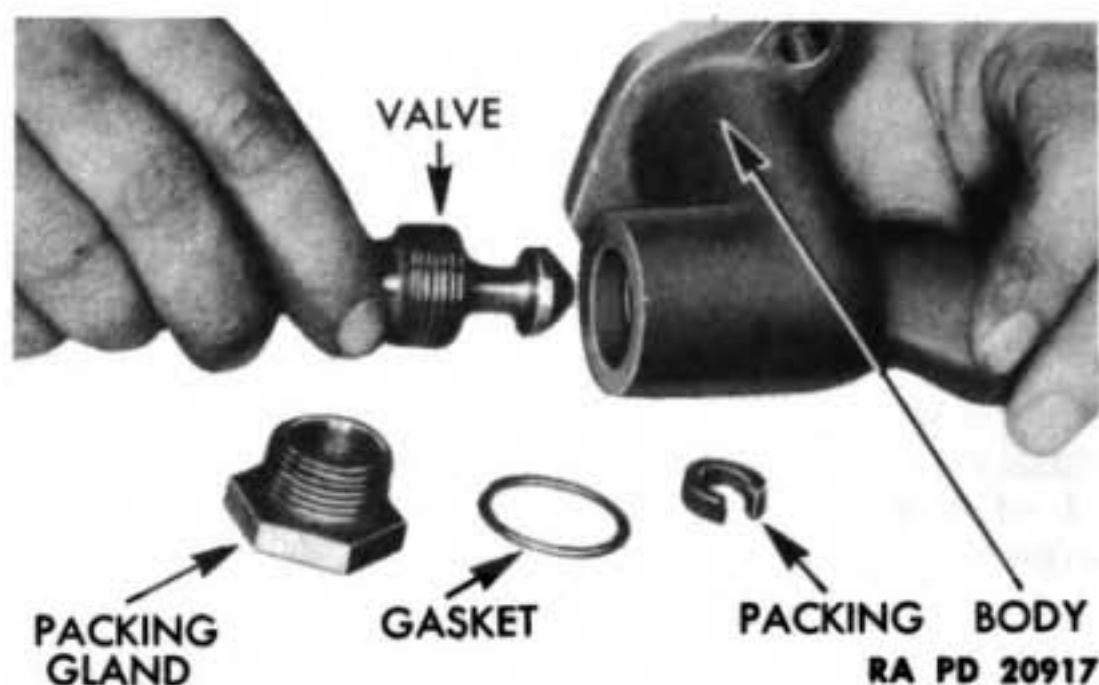

Figure 189 — Coolant Drain Valve Disassembled
h. Remove and Disassemble Coolant Drain Valve Assembly. Remove two cap screws and lock washers attaching drain valve to gear compartment cover. Remove packing gland and gasket from body. Screw valve with packing from body (fig. 189). **NOTE:** *Do not remove packing from recessed portion of valve unless it requires replacement.*
g. Install Coolant Drain Valve Assembly. Screw valve into body until seated (fig. 189). Install gasket on packing gland, and screw gland into body. Shellac new gasket on drain valve body, and attach valve assembly to gear compartment cover with two cap screws and lock washers.